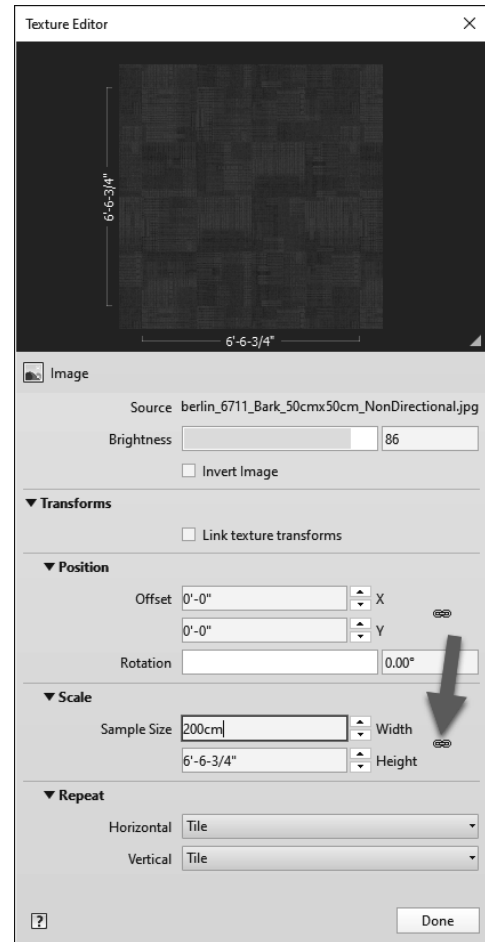

FIGURE 4-3.10 Texture Editor
You are now in the *Texture Editor* dialog (Figure 4-3.10). Here you may adjust several settings related to the raster image.
25. Click the **chain icon** pointed out in Figure 4-3.10.